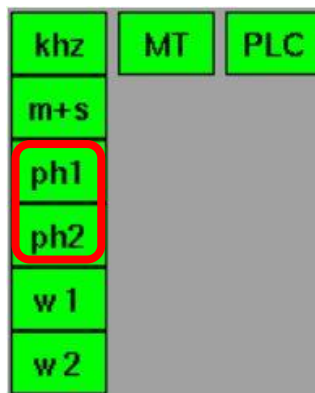

Figure 5: PC communications status indicator
- The two photometer indicators ph1 and ph2 (circled in the Figure 5, below) are red until the high-tension voltage to the photometer is turned ON.